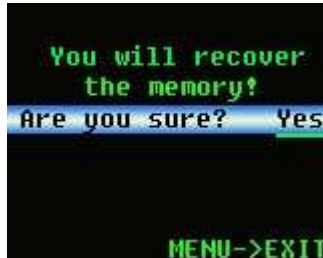
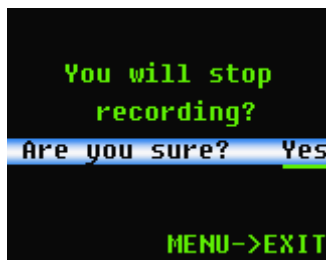

Figure 11.
Figure 12.
**a.** On the main menu interface, press the “up button” or “down button” to select “Record”, then press the “left button” or “right button” again to enter the dialog box of figure 11 or figure 12; if it is not in recording state, will come into figure 11; if it is in recording state, will come into figure 12.
**b.** In the status shown in Figure 11, press “left button” or “right button” can change the setting of the item, then press “menu button” to exit the status in Figure 11, and perform setting. YES for starting recording, NO for do not recording.
**c.** In the status shown in Figure12, press “left button” or “right button” can change the setting, press “menu button” will exit the Figure12, and perform setting. YES for stopping recording, NO for continue recording.